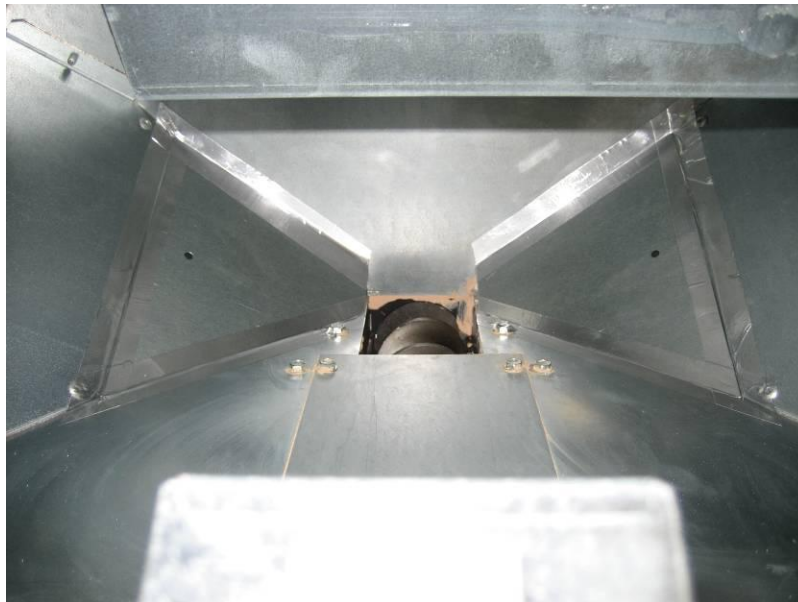

Figure 8 – Final Slider Installation
8. Proceed with pressing the remaining tape flat against the hopper bottom starting from the center of each side, working from the Slider and pressing outward toward each corner until the tape is fully flattened down (Figure 8). Be sure to press tape down well around the exposed screw heads in the hopper bottom surface. Please note that the smoother the tape, the better pellets will flow in the hopper.